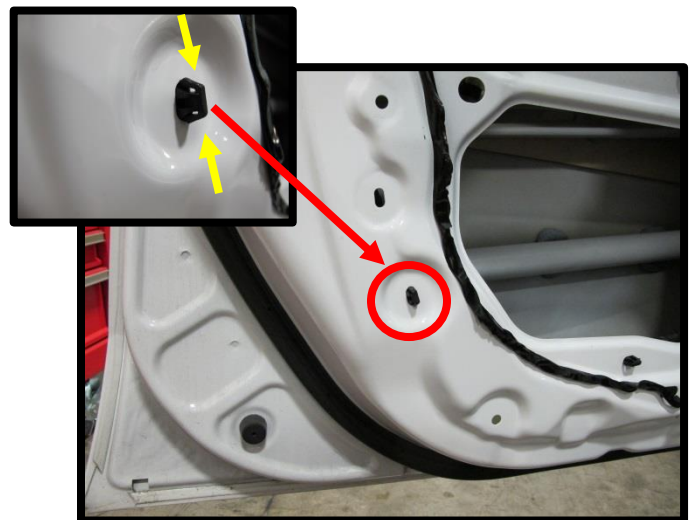

Figure 6
- Pinch clips on both sides of the harness retainer while pushing the retainer into the door (Figure 6).